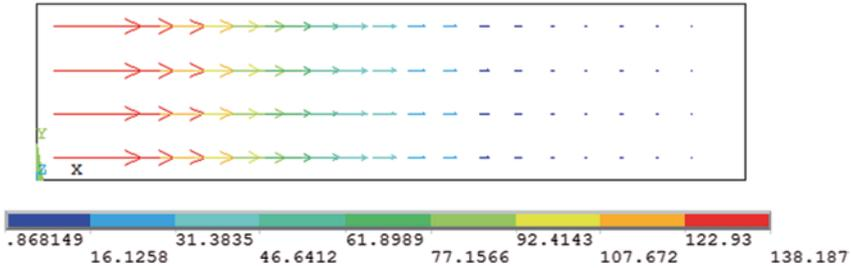

Fig. 5.27 Vector plot of thermal flux at $t=5$
- Figure 5.27 shows the vector plot of the thermal flux as it appears in the *Graphics Window*.